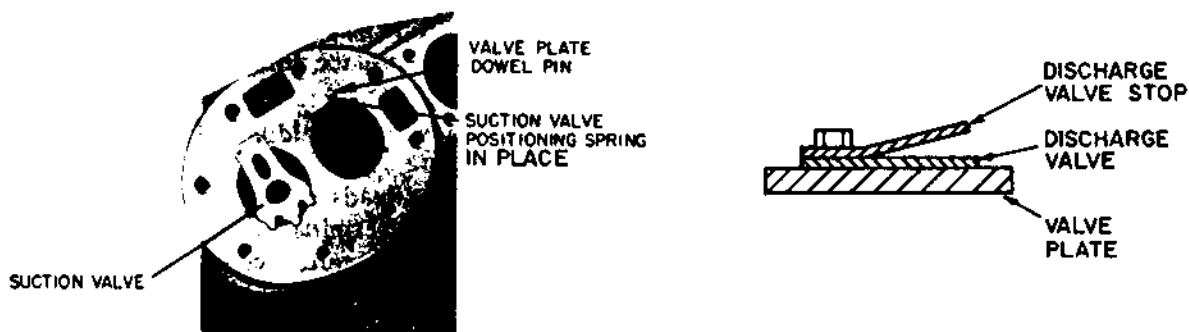

Figure 3-12. Suction Valve and Discharge Valve Installation
- b. Install suction valve positioning springs on dowel pins. Assemble positioning springs with spring ends bearing against cylinder deck. The spring will bow upward. See figure 3-12.
- f. Install discharge valve and discharge valve stop with capscrews and lock washers. See figure 3-12 and figure 3-1, page 3-1. Torque capscrews to value shown in table 3-1.